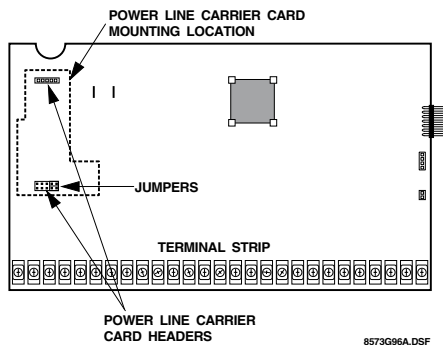

FIGURE 2-5. Header Pin Locations.
2. Install the card on the header pins shown in Figure 2-5.